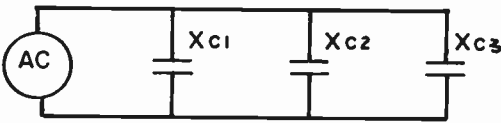

Fig. 4-34. CAPACITIVE REACTANCES IN PARALLEL.
**PARALLEL R-C-L CIRCUITS.** If similar reactances are in parallel, as in Fig. 4-34, the total reactance is found by using the formula for parallel resistors.